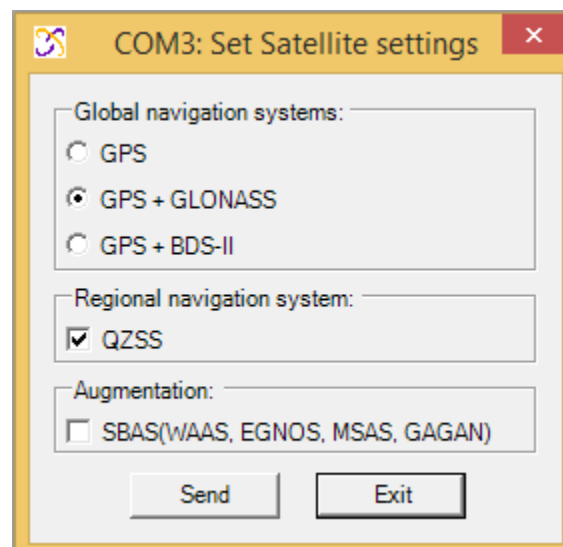

Figure 10 – Set Satellite settings window
3. A Set Satellite settings window will open (see figure 10). In this window you can choose the needed satellite constellation – GPS / GPS + GLONASS / GPS + BDS.